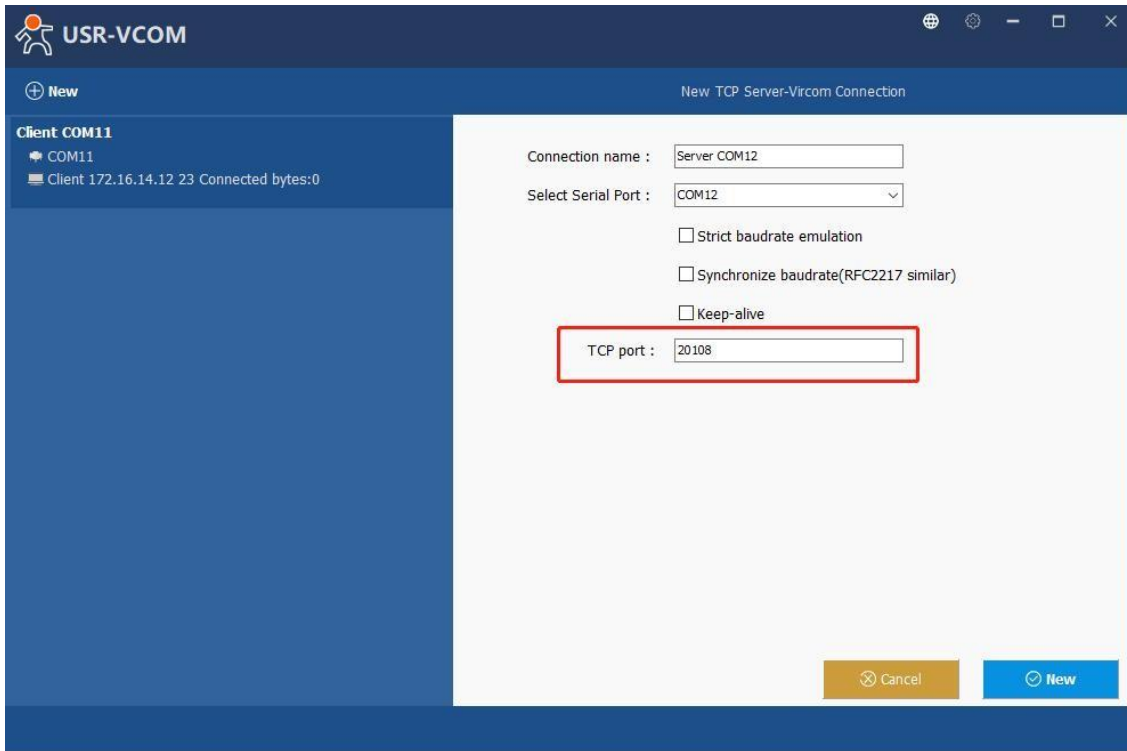

Fig.76 Virtual COM port mapping
2. Select one COM port as the Virtual COM port before proceeding as shown in Fig.76. Note that if a COM port number is used by other application or your operating system, you can not select it.